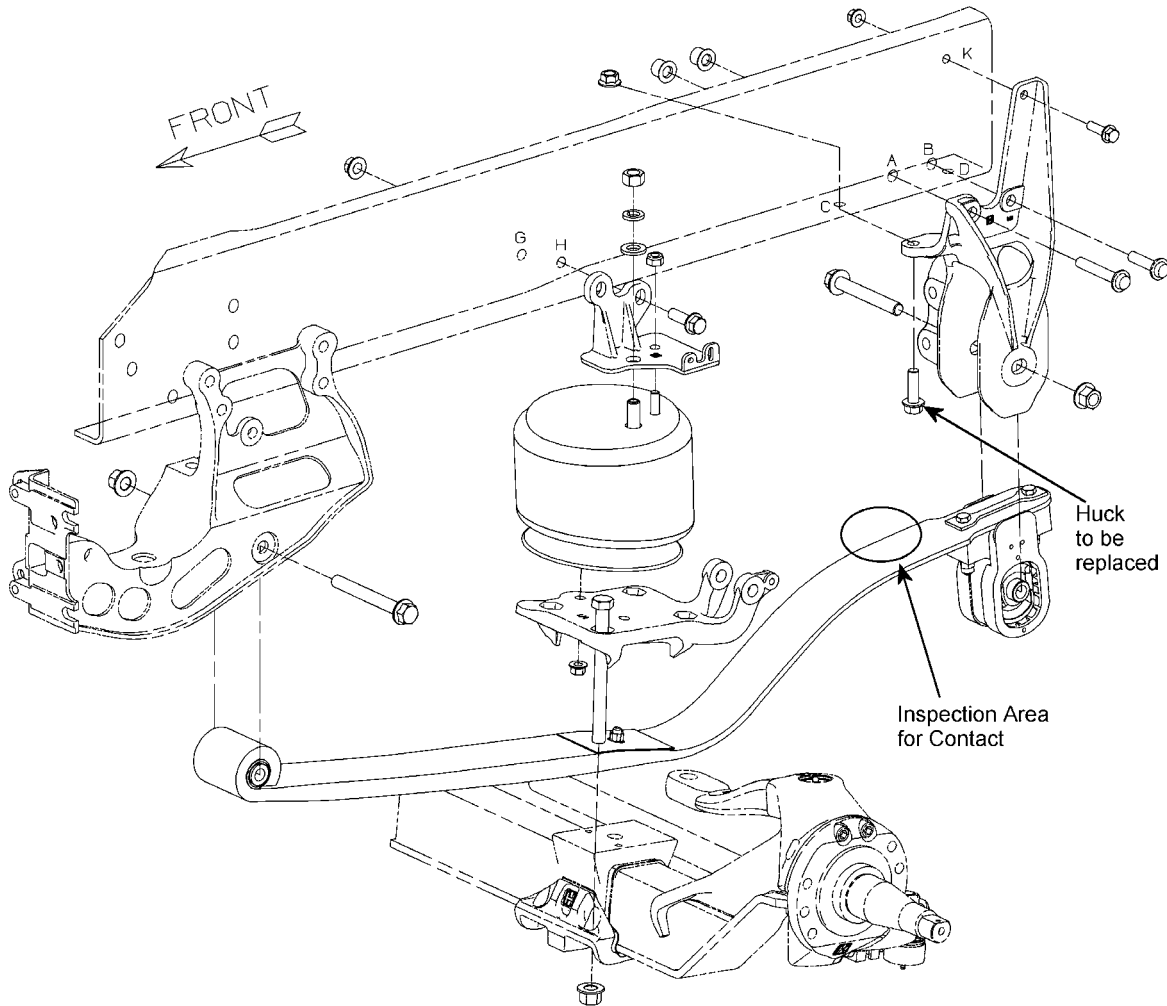

Figure 1
3. Inspect left and right suspension springs for any contact made with the end of huck bolt (Figure 1).
5. Remove huck bolt (Figure 1) and replace it with bolt number 414078C1 (5/8" x 2" Grade 8) or equivalent. Bolt must be installed from the bottom (head facing down). Install nut part number 414089C1 (5/8" Grade 8) or equivalent and torque to 220 lbf-ft.
HUCK BOLT REPLACEMENT: Remove huck bolt (Figure 1) and replace it with bolt part number 414078c1 or equivalent. Bolt must be installed from the bottom (head facing down). Install nut part number 414089c1 or equivalent, and torque to 298 Nm (220 lbf-ft).